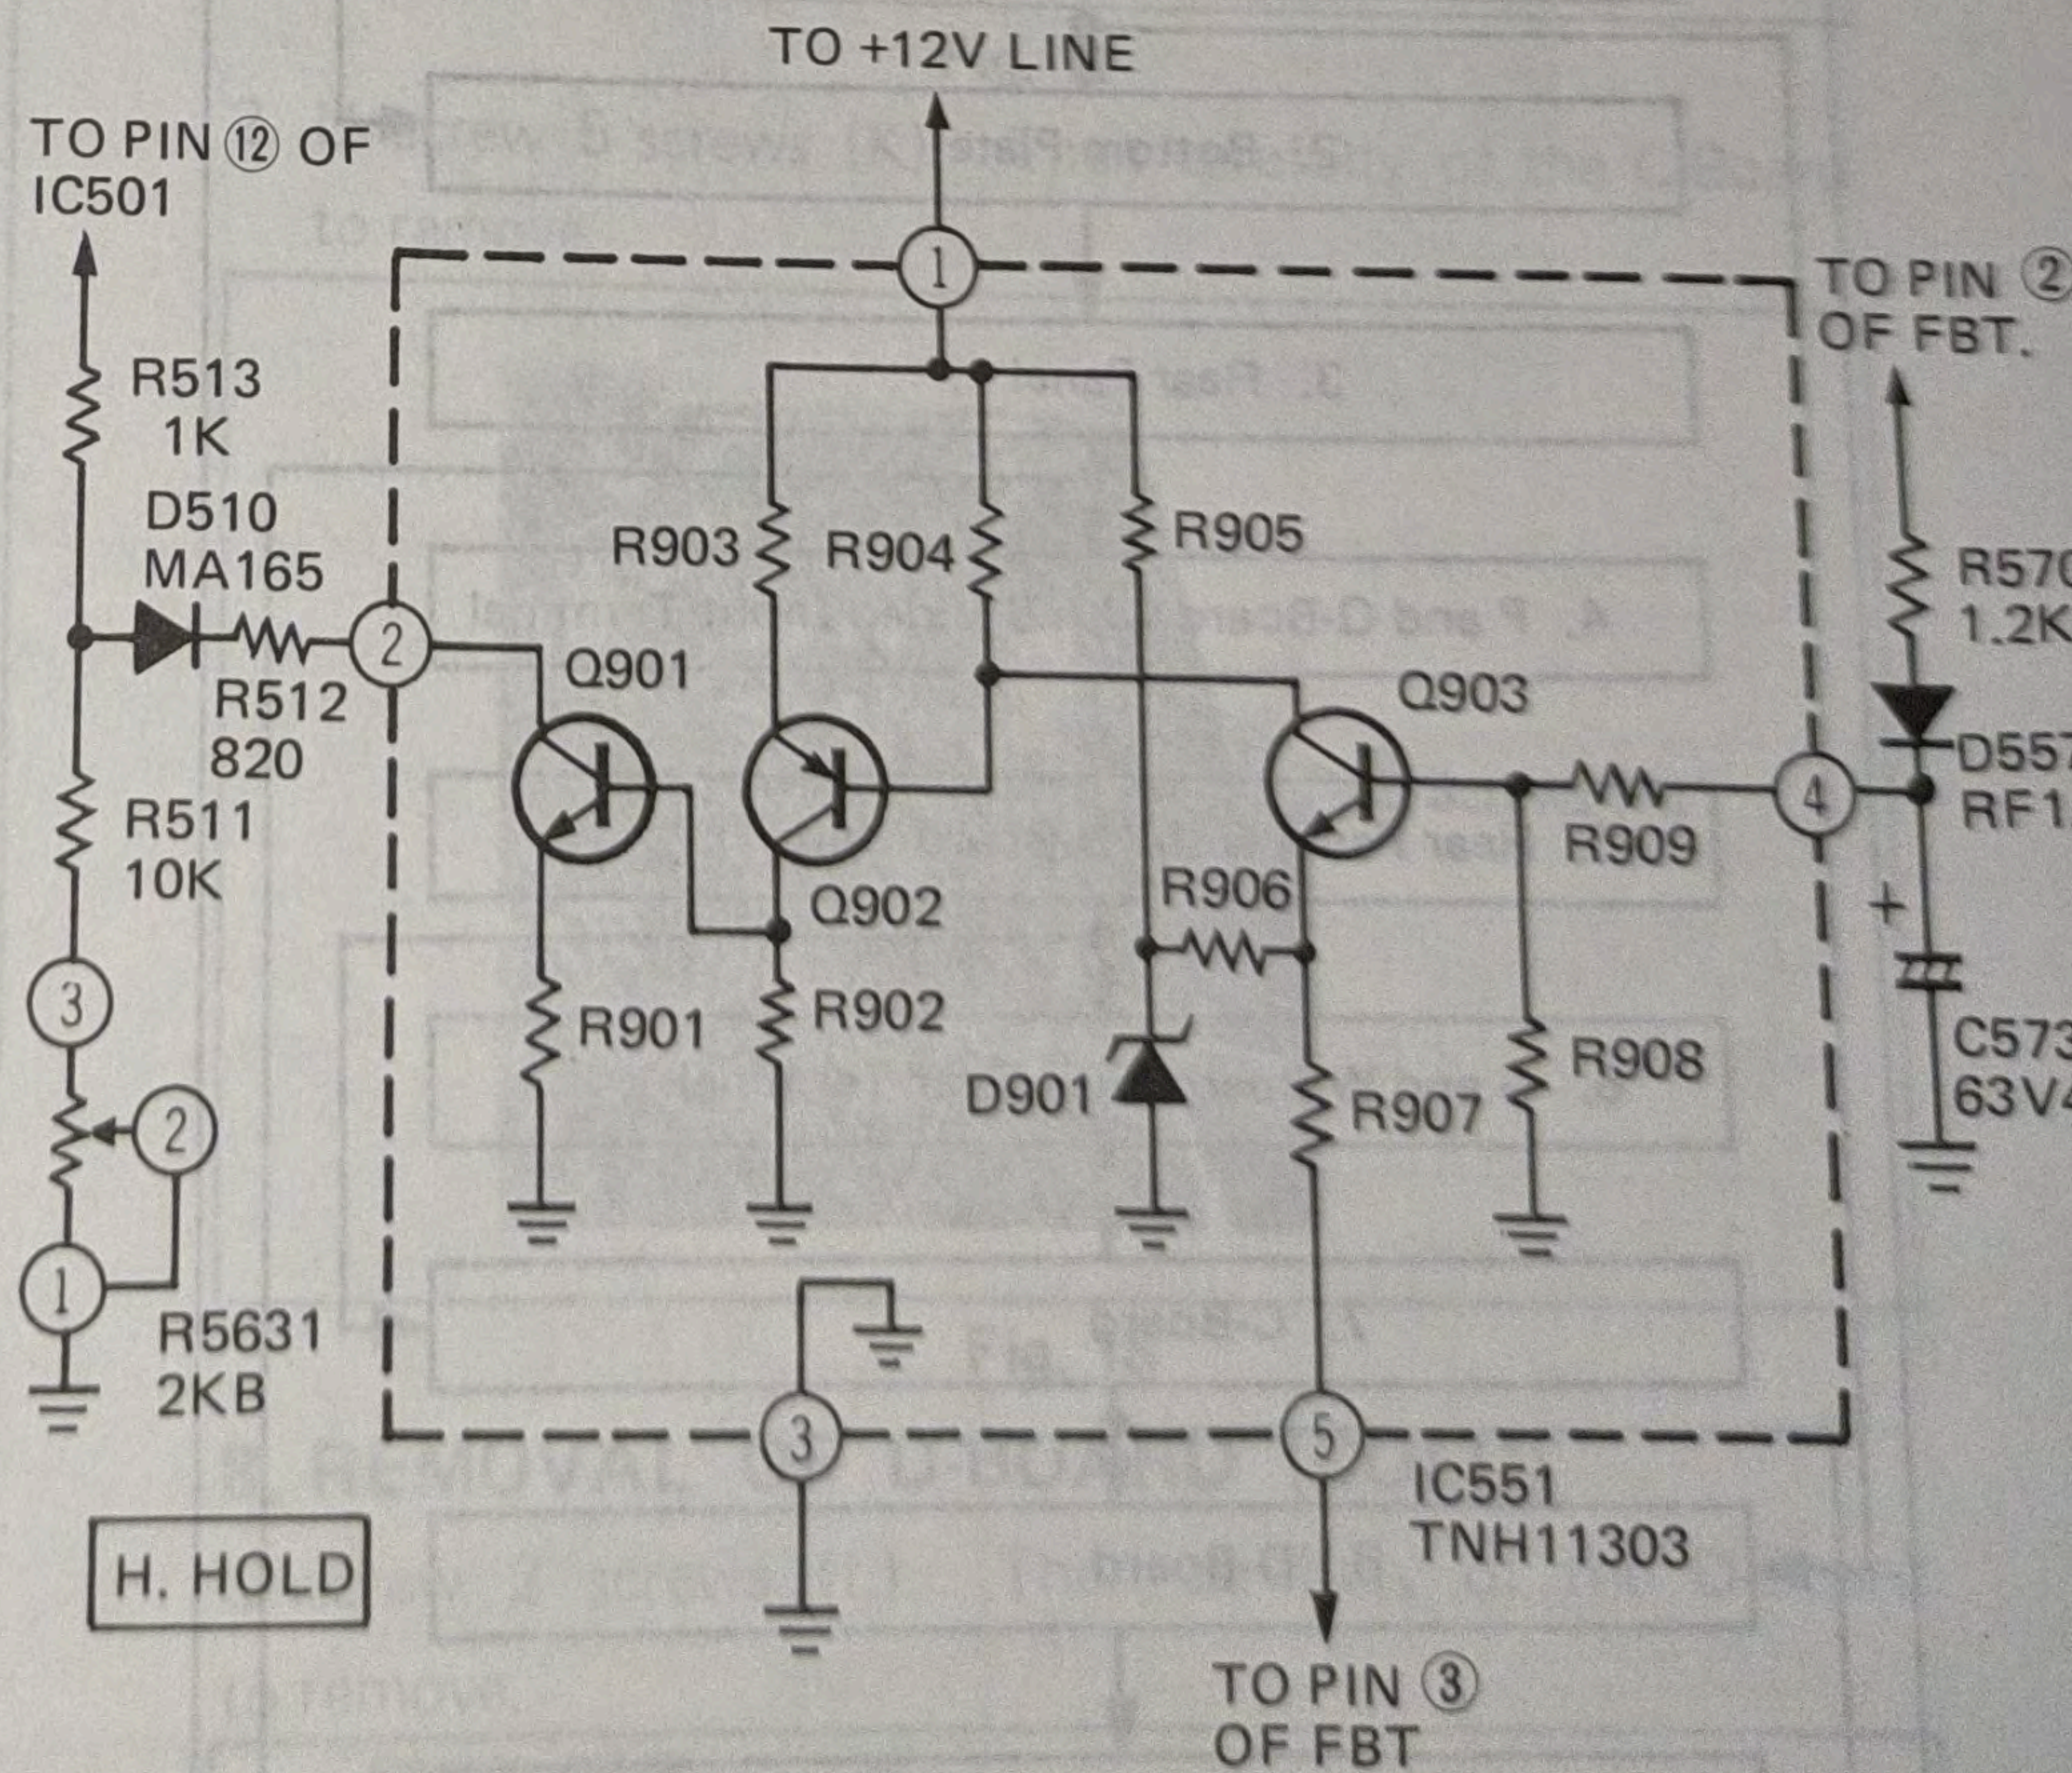

Fig. 8
Therefore Q902 turns on, and the collector voltage of Q902 increases, which is connected to the base of Q901. Consequently Q901 turns on, and collector current of Q901, which is connected to the pin ⑫ of IC501, begins to flow simultaneously. This causes the horizontal oscillator frequency to increase, and also causes loss of horizontal synchronization. (Fig. 8)